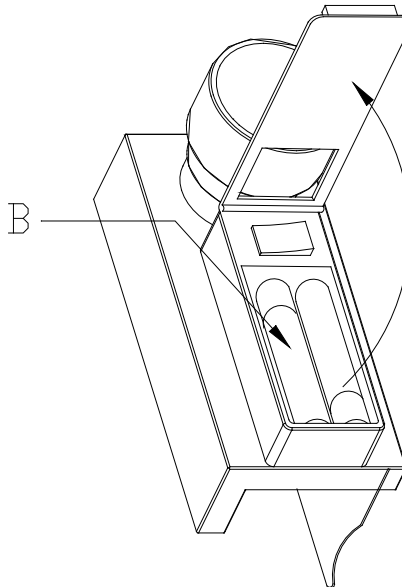

Figure 2
The alignment aid AY-OS-LSR is supplied with two 1.5 V batteries. Only use alkaline batteries. Open the flap on the battery compartment and insert the batteries (B). (see Figure 2).